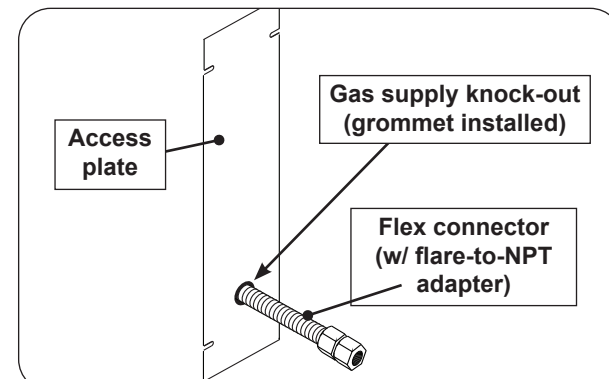

Fig. 24-4 Access plate view & install orientation
2. Remove the plastic grommet (attached to the flex connector) and insert it into the newly created opening. Then route the flex connector through the opening. See Fig. 24-4.